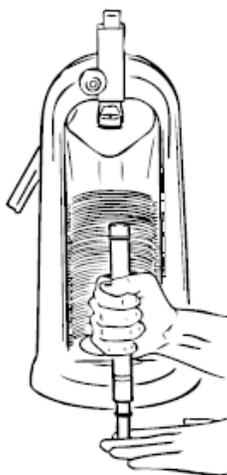

Figure 4: Starting the seal
- 4) **Immediately** push the **D** end of the collector tube over the open end of each sample tube to start the seal (Figure 4).
- 5) Place the assembly in the press (Figure 4), putting the sample tube through the hole in the white base. Before pressing, the user should grip the collector tube firmly at the breakaway point to keep the tube from shifting during the pressing procedure.